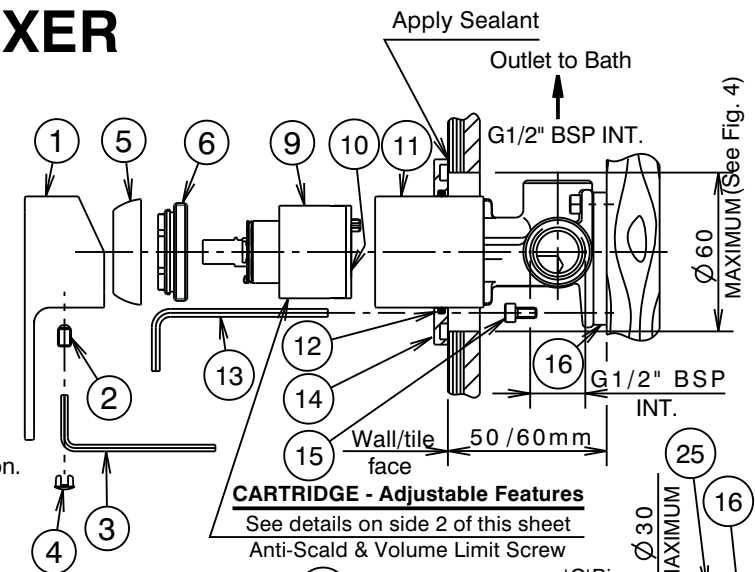

Fig. 1
- Carefully slide the cover plate (14) onto the mixer body (11), ensuring that the 'O'Ring (12) remains in its groove, then push the cover plate firmly against the wall/tile face. (See Fig. 1). Fit wall bath outlet (20) onto spigot of retainer (17), taking care that 'O'Rings are not damaged as they enter bore of outlet, then push it firmly against the cover plate (14) while tightening grub screws (22) using the 2.00mm allen key (21) provided. Take care that the top face of the bath outlet is horizontal before tightening screws (22).
- Fit handle (1) taking care that it is pushed fully down, tighten screw (2) using the 2.5mm allen key (3) then fit plug (4).
Replacing Cartridge (Fig. 1)